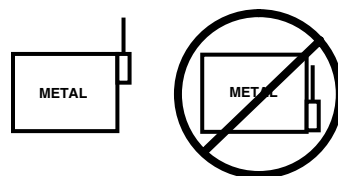

Figure 2. Mounting on or Near Metal
- Avoid areas with excessive metal or electrical wiring, including furnace and utility rooms. If unavoidable, mount on or near metal with the antenna extending above the metallic surfaces, as shown in Figure 2.